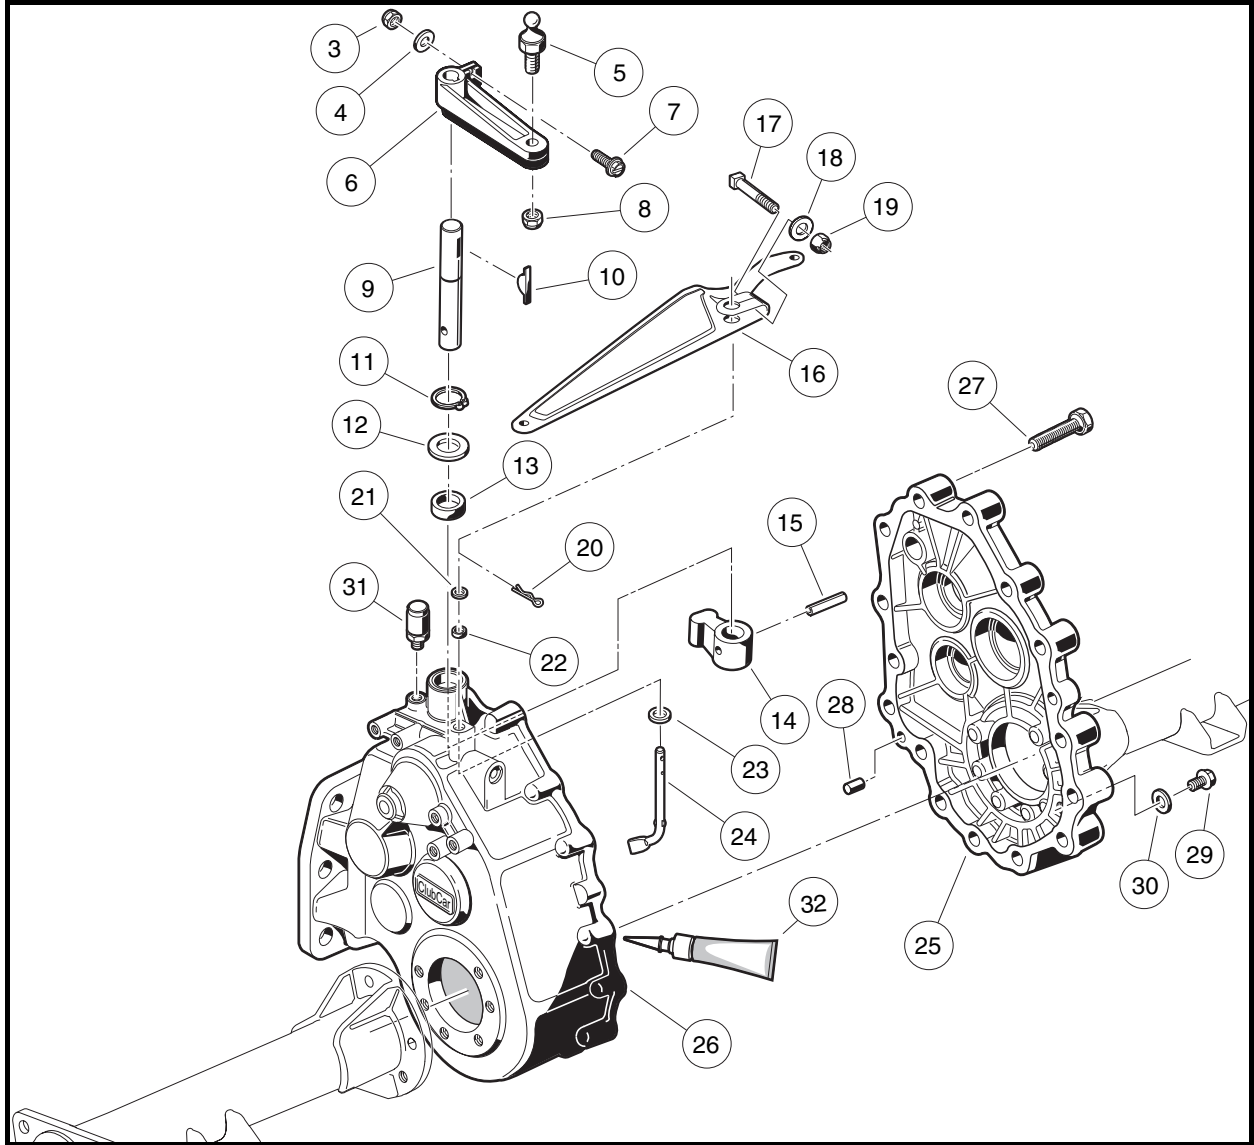

Figure 16-35 Transaxle Gear Casing and Brackets
- 22.2. Place the woodruff key (10) on the shifter shaft (9) (**Figure 16-35, Page 16-16**).